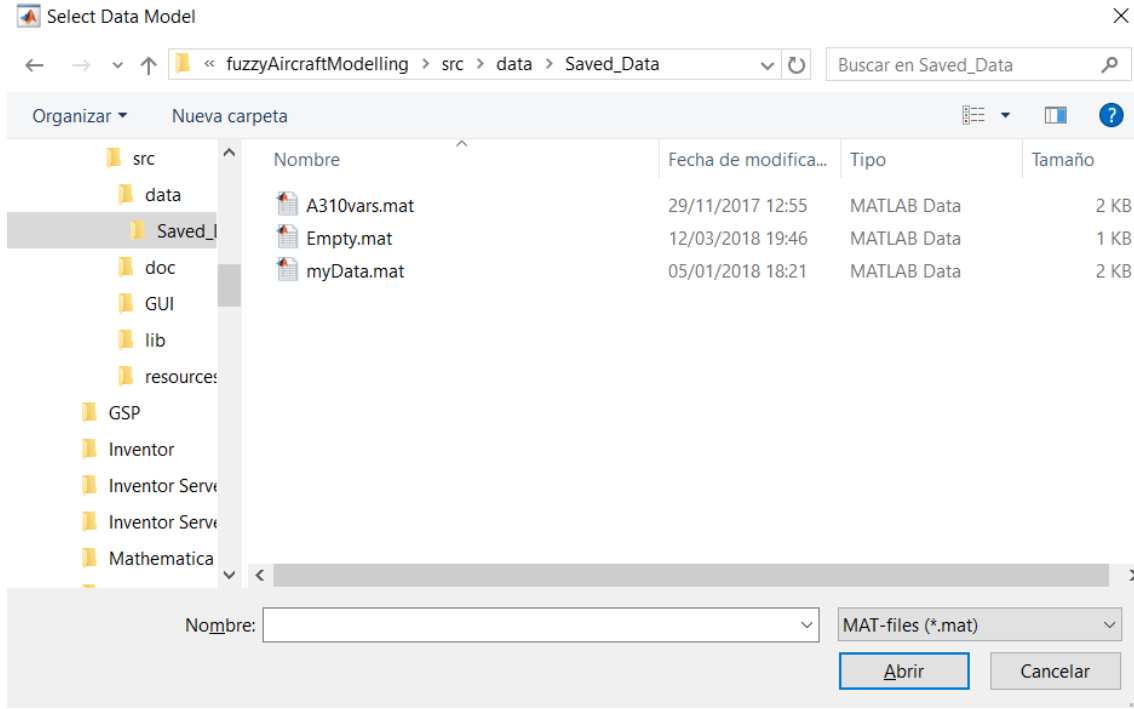

Figure 3: Select Data window
- **load**: Open browse window to select a .mat file with all the input data. In figure 3 is shown an example to load data saved in folder *SavedData*.